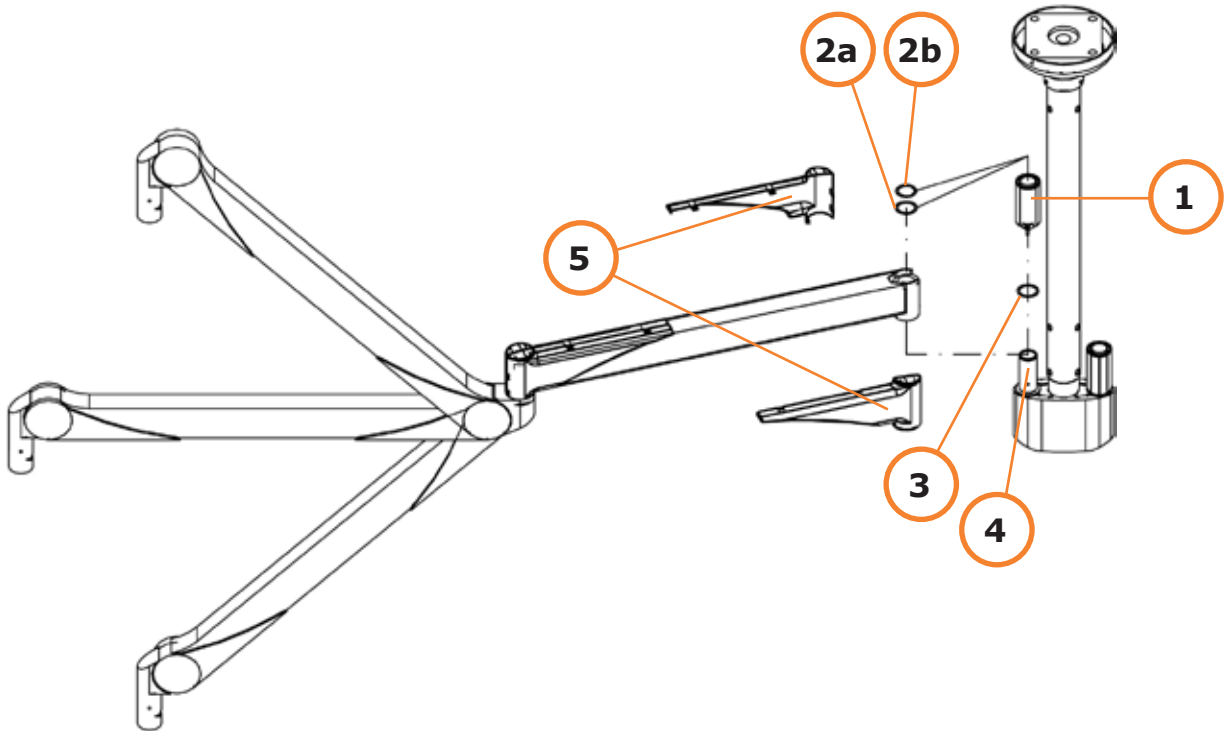

Fig. 20
9.1.1 Loosen the screw and remove the plastic cap of the pin (1/Fig. 20).
NOTE: You will find a spacer (2a/Fig. 20) and a snap ring (2b/Fig. 20) on top of the plastic cap of the mounting pin. They will be used later during installation. Do not throw away.
9.1.2 Ensure the washer (3/Fig. 20) is positioned on the contact surface of the mounting pin, below the arm. Please, inform your supplier in case it should be missing, since it is necessary for proper operation.
9.1.3 Slide the extension/spring arm combination onto the mounting pin (4/Fig. 20) of the ceiling column.
9.1.5. Remove the spacer (2a/Fig. 20) and the snap ring (2b/Fig. 20) from the top of the plastic cover (1/Fig. 20), and put them in place onto the mounting pin above the extension arm, placing the spacer first (2a/Fig. 20) and then the snap ring on top (2b/Fig. 20).
9.1.7 Attach the covers (5/Fig. 20) of the extension/spring arm, securing them with the mounting screws. Ensure the covers sit firmly.